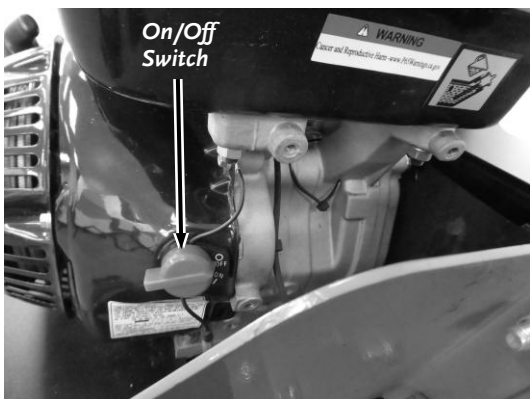

Figure 19a
2. Turn the On/Off Switch to the “ON” position (**Figure 19a**).